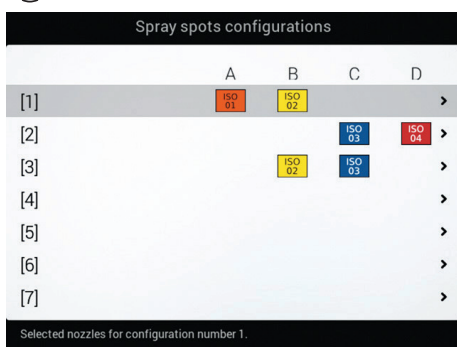

Fig. 32
- Select the configuration you wish to set up (Fig. 32).